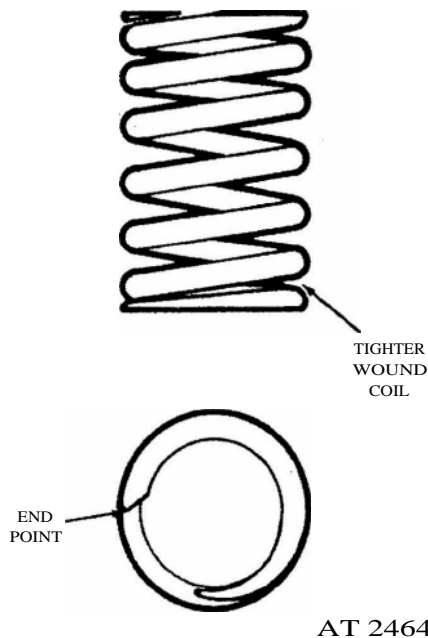

Figure 35. Follower spring identification.
3. Refer to figures 35 and 36 and place the stop pin on the injector body so that the tighter wound end of the follower spring rests on the narrow flange of the stop pin. This end has been cut so that